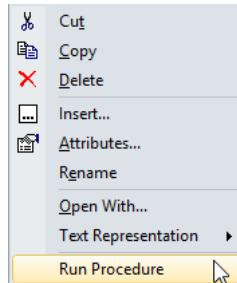

Figure 5.8: A right mouse pop-up menu
- ▶ use the right mouse pop-up menu to issue the **Run Procedure** command (see Figure 5.8).